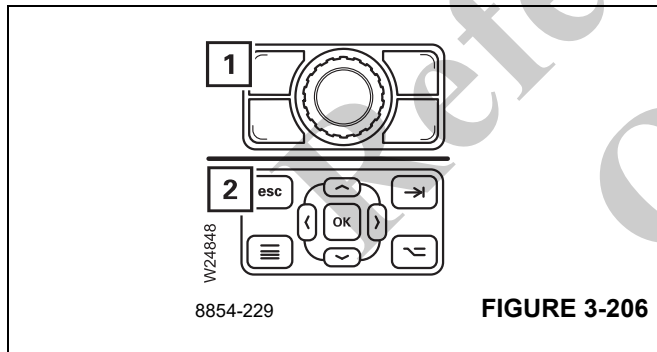

FIGURE 3-206
Press button (1), (Figure 3-206) on the Jog Dial or press the ESC Button (2), (Figure 3-206) on the control panel.